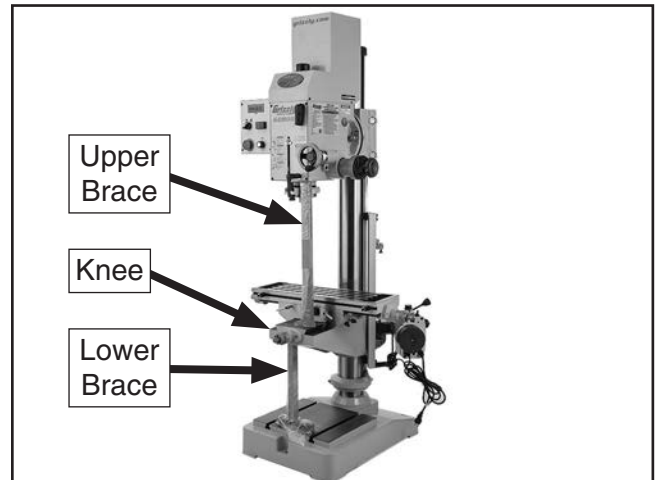

Figure 18. Wooden shipping braces to be removed during assembly.
Note: Only exert mild pressure when lowering table during **Step 3**, otherwise you could damage knee by forcing it down against lower brace (see **Figure 18**).
4. Remove upper wooden brace, raise table slightly, then remove lower wooden brace (see **Figure 18**).